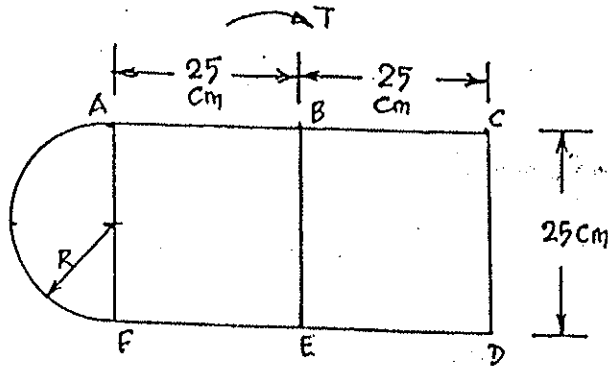

Fig. 1
11. Obtain the shear flow around a three cell box beam (Fig. 1) when it is subjected to a torque of $T = 100 \text{ kNm}$. The thickness of vertical members, horizontal members and semicircle are 1.25, 0.75 and 0.6 cm respectively.